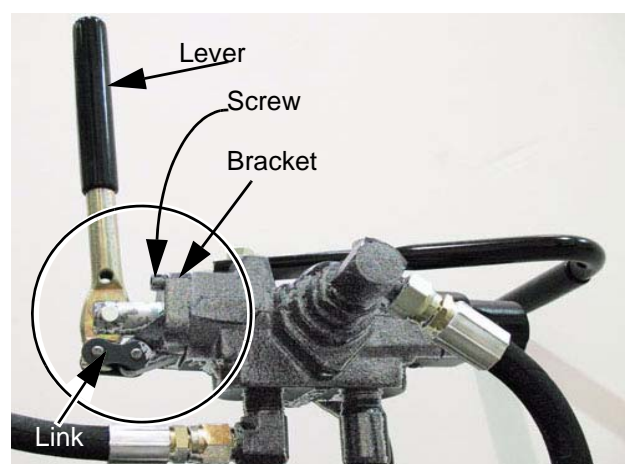

Figure 4.9
4.1. Replacement Parts See Figure 4.9.